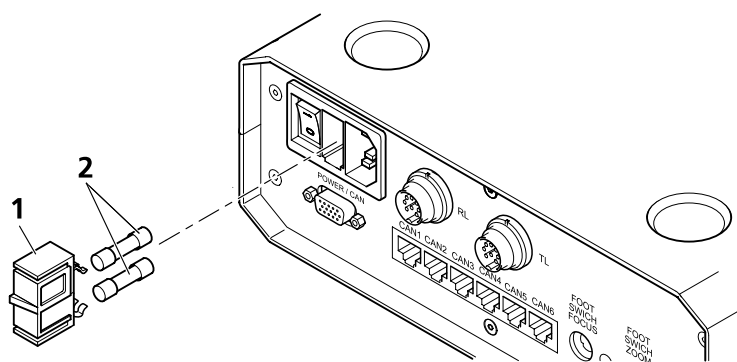

Fig. 57 Replacing the fuse on the EMS-2
- Pull out the fuse insert (Fig. 57/1) at the rear side of the EMS-2. To do this, press the snap-in mechanisms on the top and on the bottom of the fuse insert.
- Replace the defective fuse (Fig. 57/2) (fuse type: T 2.5 A/E, 250V, 5x20mm).